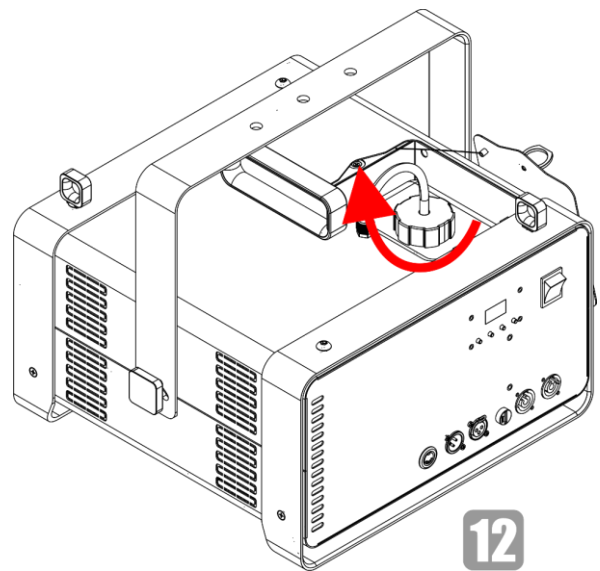

Fig. 30
- 12) Screw the lid back on the fluid tank, as shown in Fig. 30.